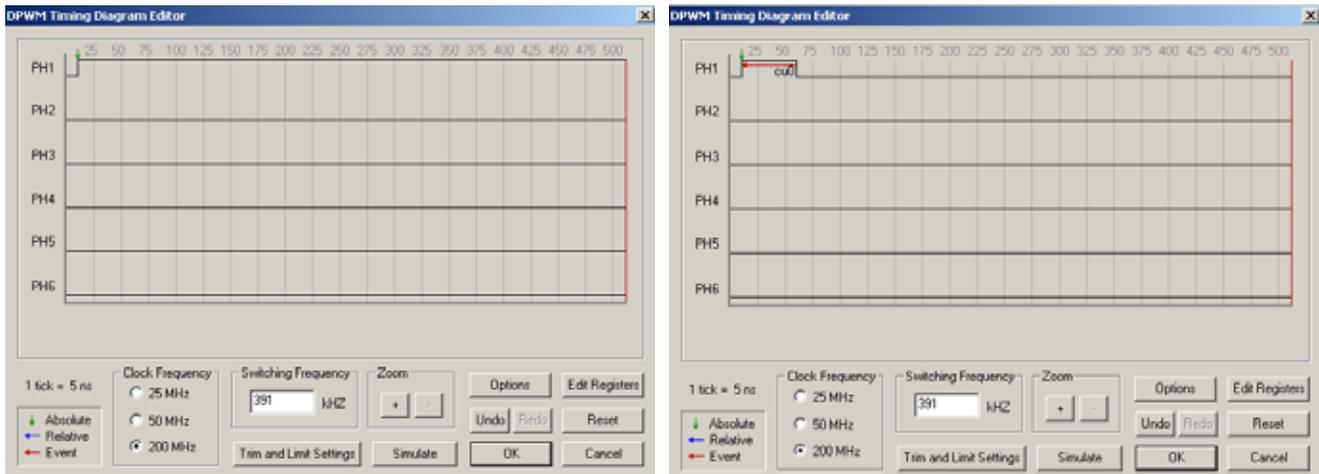

Figure 9. DPWM Timing Diagram Editor—Phase 1
2. To create an absolute edge on Phase 1, hold the mouse above the Phase 1 zero timing line (default) at time tick 10. Then, either double click with the left mouse button or right-click at that point and select **Absolute Edge**. An absolute edge at time tick 10 will be created (see Figure 9).
3. To finish the timing for Phase 1, specify hardware modulation using **(Cu0)**. This event edge will be modulated relative to its absolute edge at time tick 10. To create this edge, hold the mouse above the Phase 1 timing line to the right of time tick 10 at time tick 60. Either double-click or right-click at that point and select **Event (Cu0) Edge**. Next, select the edge to reference by clicking on edge 1 in Phase 1. A relative falling (Cu0) edge will be created at time tick 60 since  $u(n)$  defaults to 50 (see Figure 9).